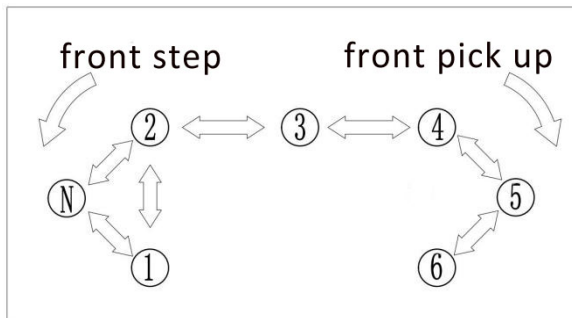
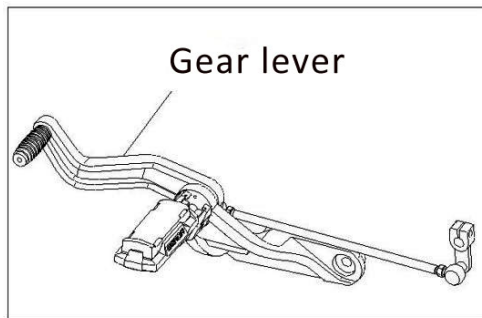

Fig. 12 Shift position diagram
Fig.13 Gear Lever
5.4.1. Shift operation (Figure 12, Figure 13)